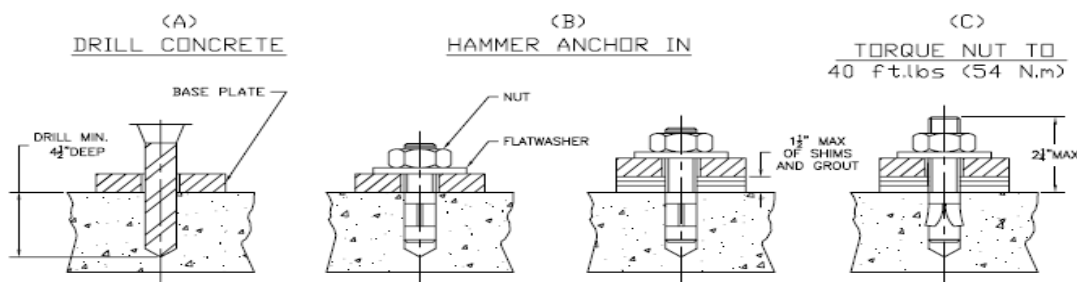

Figure 19 – Anchoring
3. Using a rotary hammer drill and a 1/2" concrete bit, drill through the floor at each of the four (4) anchor bolt locations on each of the base frames. Refer to **Figure 5** for locations & **Figure 19**.